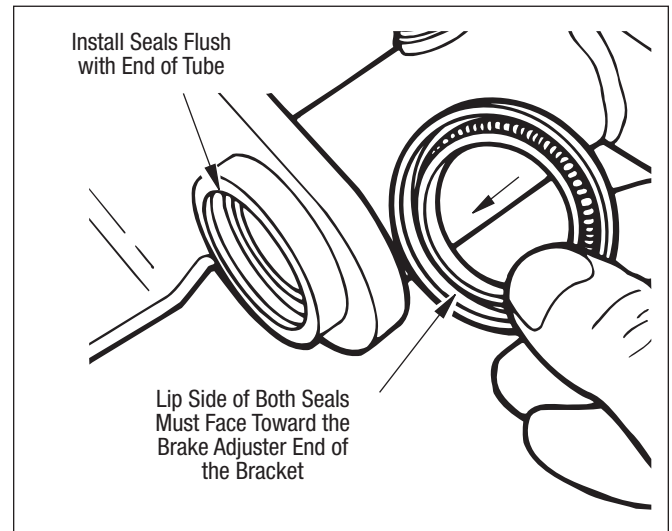

**Figure 43 – Air Chamber Bracket Bushing Installation**
4. Install new bushings in the air chamber bracket (Drive and Steer Axles) with a suitable piloted driver. For identification and installation specifications, refer to *Figure 43*.